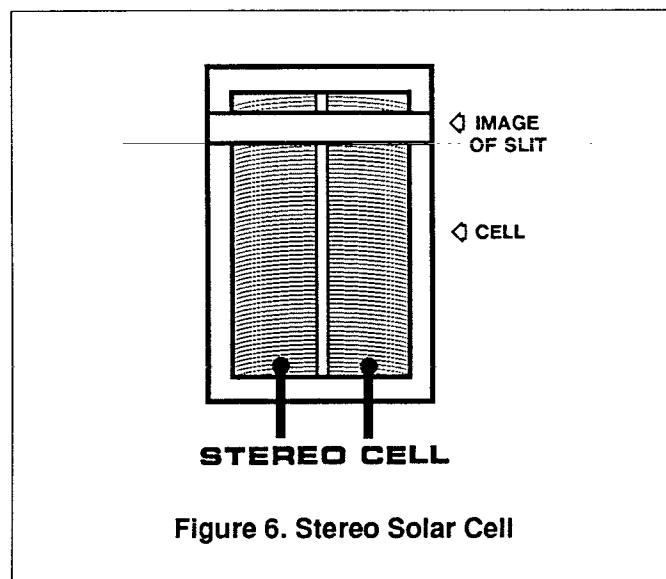

Figure 6. Stereo Solar Cell
- (A) Mount the stereo solar cell on the projector and position the bracket, so that the slit image hits the upper part of the cell. The cell should be approximately 0.040 inch (1 mm) behind the film such that the slit image just fills the cell width, but DOES NOT SPILL OVER. See *Figures 6 and 7*.